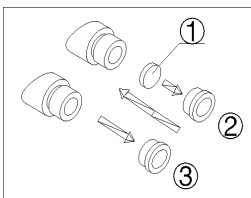

Fig.5
- 1) Turn and remove the mounting ring ② from the eyepiece.(Fig.5)
- 2) Clean the eyepiece micrometer ① and mount it to the mounting ring with the inscription side downward.
- 3) Gently twist the mounting ring with the eyepiece micrometer into the eyepiece till tightening ② securely.
- 4) To remove the eyepiece micrometer, take down the mounting ring ③ by twisting and take out of the micrometer, and then wrap it.